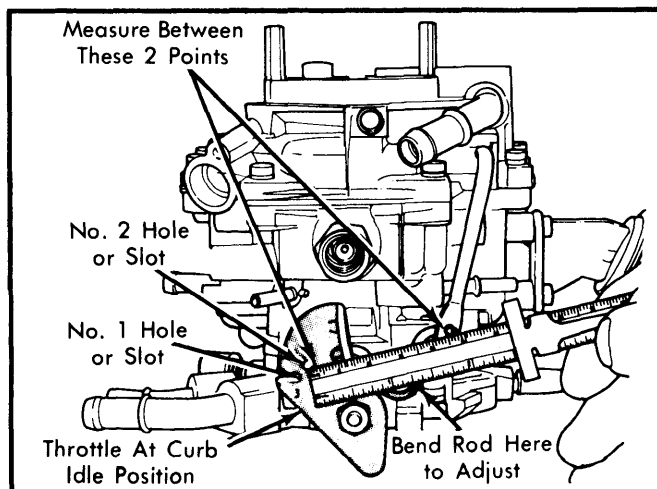

Fig. 2 Adjusting Accelerator Pump
1) Make sure accelerator pump rod is in correct hole on Chrysler Corp. models or in the correct slot on Ford Motor Co. models. See Fig. 2.